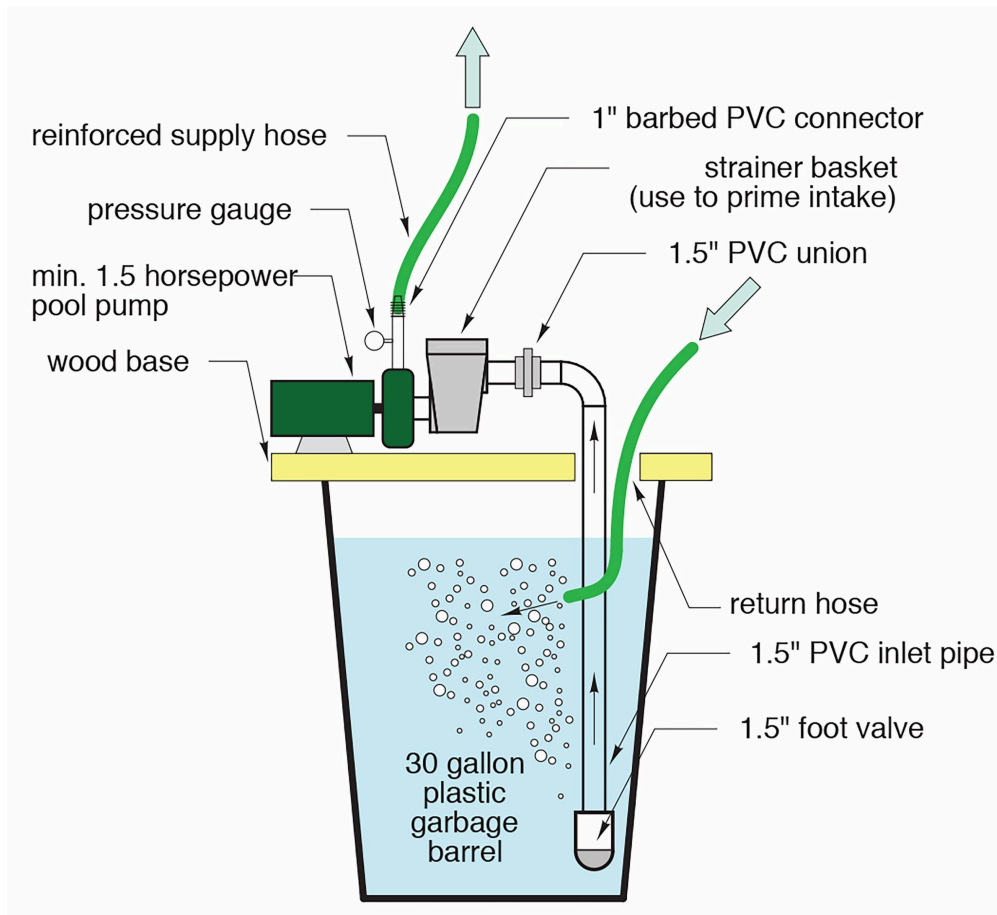

Figure 5 Purge setup for earth loops
- Figure 5 “Slinkies” laid into large-area excavation © Caleffi Hydronic Solutions. Used with permission.
valved earth loops. For a valved system, each loop can be individually isolated and purged at a rate of at least 2 feet per second. This rate has been proven to be effective at removing air and debris from the piping, however, the system's installed circulator will usually not be able to move water at a sufficient velocity and quantity to achieve proper purging results. Therefore, a powerful high-capacity purging pump, as shown in Figure 5 below, is temporarily connected to the piping for both valved and non-valved configurations. Sometimes called a "purge cart" or "purge barrel", the setup consists of a pump, which is similar to one used for pools or shallow wells, a barrel that holds at least 30 gallons of liquid, and large-diameter flexible hose connections.